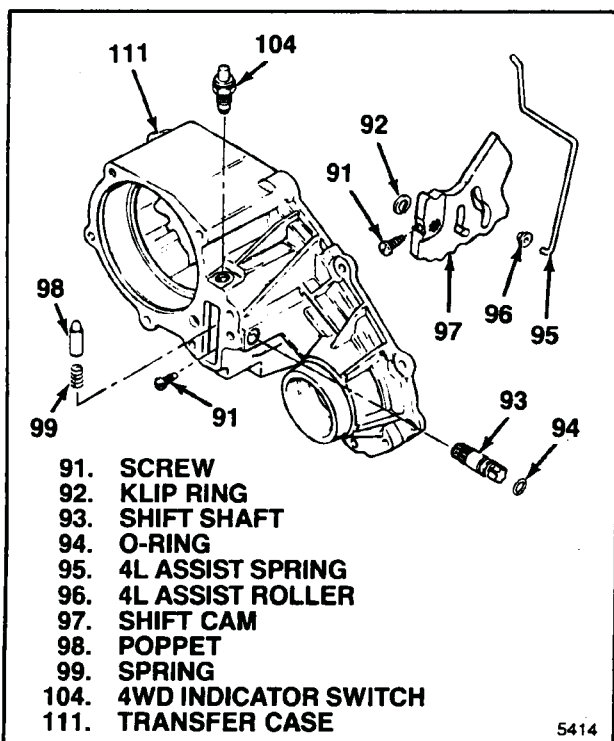
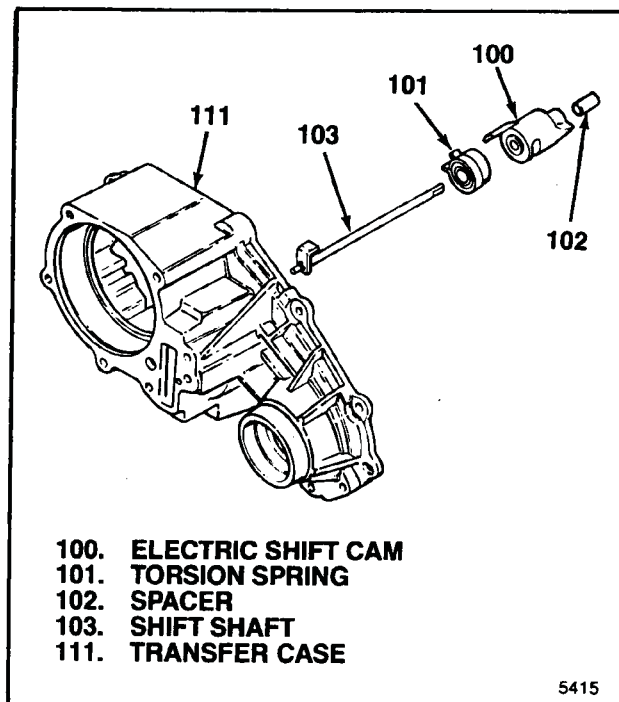
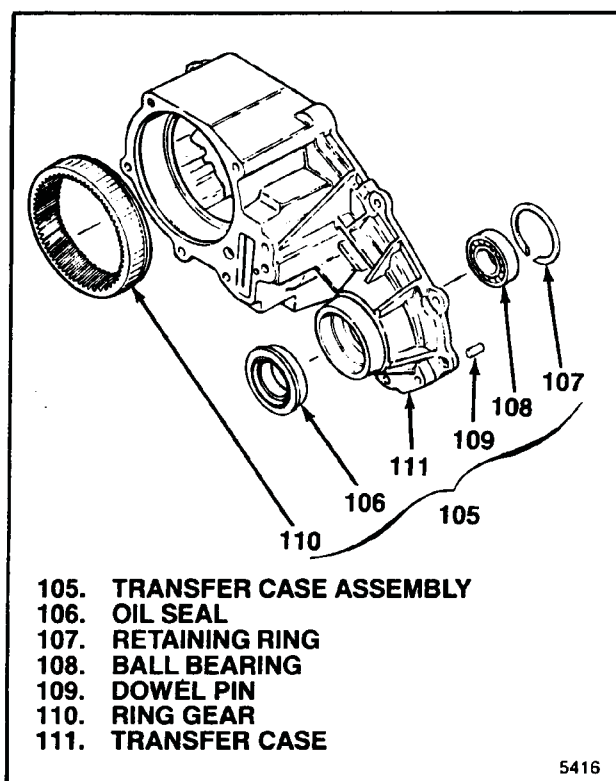

Figure 3-11. Mechanical Shift Cam Parts
Figure 3-12. Electric Shift Cam Parts
Figure 3-13. Transfer Case Assembly
**3-16. REMOVAL OF SHIFT CAM PARTS (MECHANICAL SHIFT TRANSFER CASE ONLY).** On mechanical shift units, remove the following (see figure 3-11):
- Remove two screws (91), one from transfer case (111) and one from shift cam (97).
- Remove klip ring (92) and shift shaft (93). Poppet (98) and spring (99) may pop out as shift shaft is removed. Use care not to loose these parts. Remove o-ring (94) from shift shaft.
- Remove 4L assist spring (95) and roller (96).
- Remove shift cam (97), poppet (98) and spring (99) from transfer case (111).
- Remove 4WD indicator switch (104) from transfer case (121).
**3-17. REMOVAL OF SHIFT CAM PARTS (ELECTRIC SHIFT TRANSFER CASE ONLY).** On electric shift units, remove the following (see figure 3-12):
- Slide electric shift cam (100) off shift shaft (103).
- Clamp retainer end of shift shaft (103) in soft-jawed vise. Keeping fingers away from spring ends, pry torsion spring (101) out of engagement with shaft drive tang using a screwdriver. Remove torsion spring and spacer (102) from shift shaft.
**3-18. DISASSEMBLY OF TRANSFER CASE ASSEMBLY.** Disassemble transfer case assembly (105) as follows (see figure 3-13):
- Pull oil seal (106).
- Remove retaining ring (107) and pull ball bearing (108).